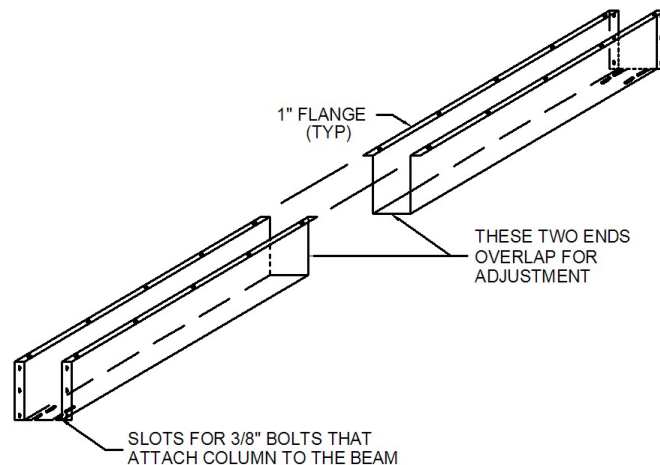

FIGURE 15 - INTERIOR BEAM COVER
3. Install the NSF approved beam covers referencing Figure 15.